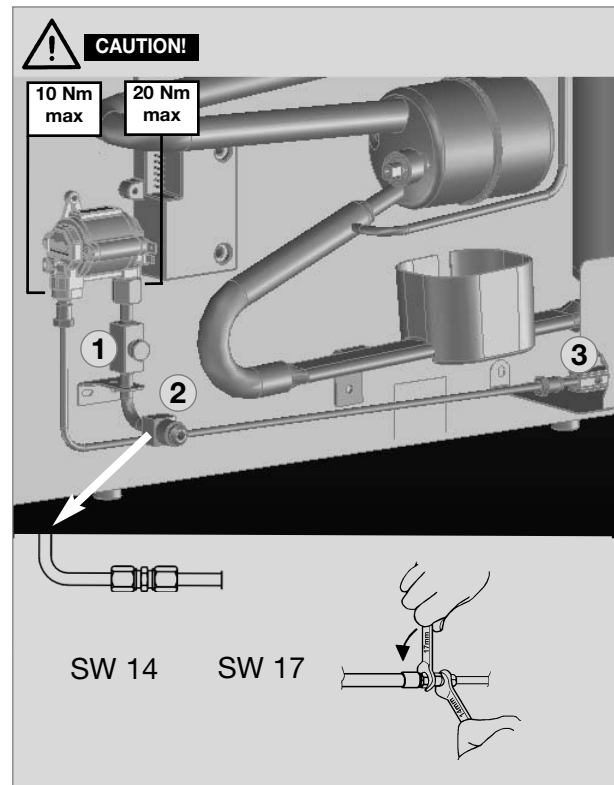

Fig. 47
- The gas connection to the appliance is 1/8" BSP Female (s. figure 47).